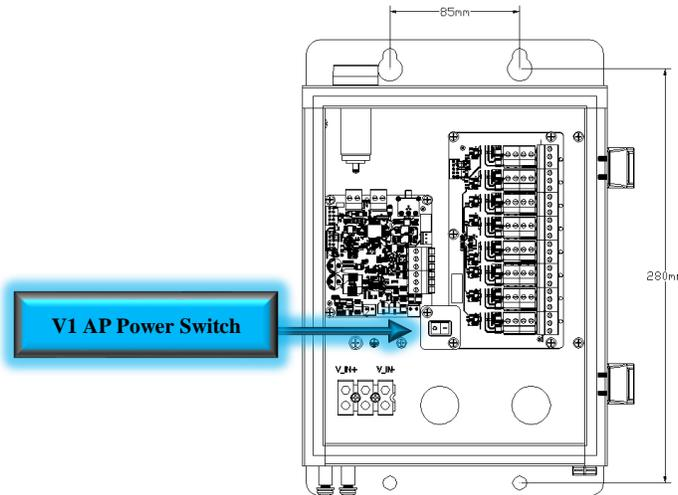

Figure 61: V1 AP Internal View and Power Switch
- Ensure the V1 AP Power Switch is in the OFF position. See Figure 61 below.